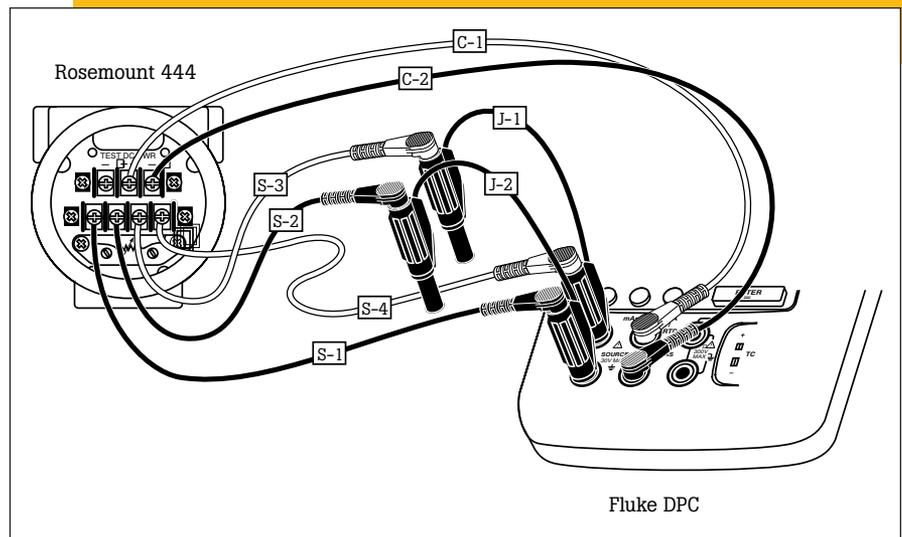

Figure 11
The example shown below (Figure 11) depicts the hookup for a 3 and 4 wire Rosemount 444 RTD Transmitter. You will need an additional pair of TL22 test leads and AC20 industrial test clips to complete all the connections necessary for this application. In order to double the available connections to the source terminals on the DPC, you also will need to utilize the short black jumpers supplied with the Documenting Process Calibrator.
4. Once the connections are made as per the diagram in Figure 11, enable the loop 24 volt power from the setup screen, source the pertinent RTD for the specific transmitter being evaluated, and set the measure mode to mA.